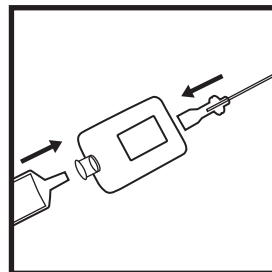

Fig. 3
4. Attach introducer needle and syringe to COMPASS (refer to Fig. 3).